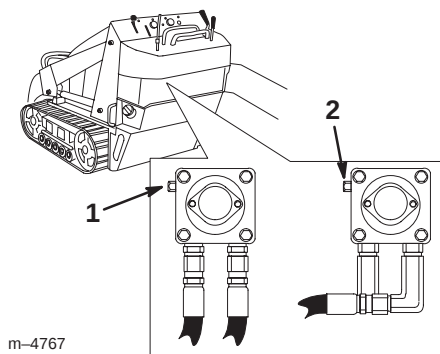

Figure 12
3. Using a wrench, turn the tow valves on the hydraulic pumps twice counter-clockwise (Fig. 12).